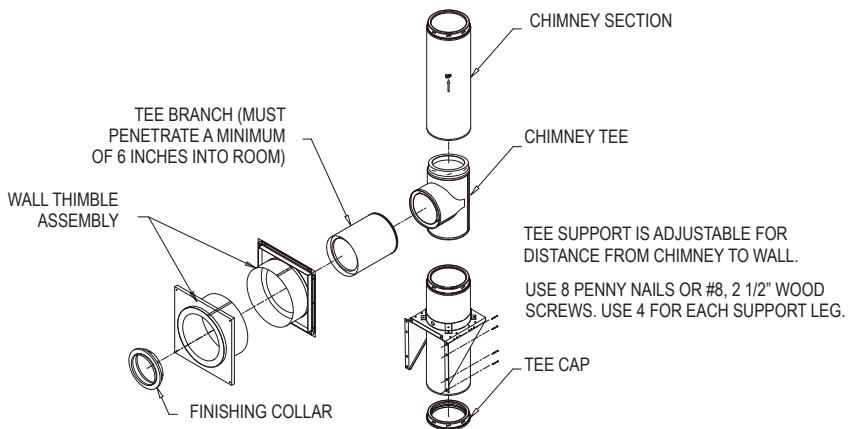
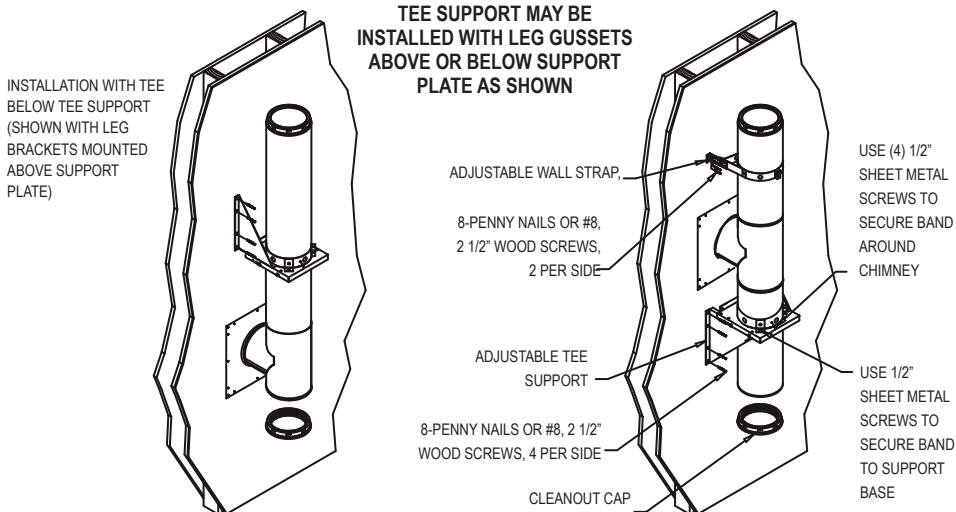

Figure 24
Figure 25
DuraTech Chimney (**Table 2**). The various support components are adjustable in length from the wall to better fit your installation. There are two options when installing a Tee-Supported installation: the Tee Support above the Tee, or the Tee Support below the Tee. The required parts and general configuration are as shown in **Fig.24, 25, 26 and 27**.
3. Install Wall Thimble: The Wall Thimble is a two-piece component which includes the Interior half and the Exterior half. On the outside wall, install the back portion of the Wall Thimble. Center the back portion of the Wall Thimble (with shield inside wall) in the framed opening of the outside wall (**Fig.24**). Be sure to seal the flange of the Wall Thimble around the wall by using a non-hardening waterproof sealant. Attach the back portion of the Wall Thimble to the outside wall using at least (4) 8-penny nails or (4) #8, 1-1/2" wood screws. There must be a continuous shield within the wall. If the two halves of the Wall Thimble do not overlap, a field-fabricated extension constructed out of 26-gauge galvanized or stainless steel is needed.
Thimble (**Fig.24, 25, 26 & 27**). The Tee Support may be installed either above the Tee or below the Tee (within one pipe section), as seen in **Fig.25**. See **Table 2** for weight bearing values of components. Important: Verify that Tee Support is level, and secure the Support to the wall using (4) #8, 2-1/2" screws for each side. Slide support base over leg brackets to adjust for desired clearance to wall, and secure by tightening bolts (**Fig.24 & 25**).
5. Install Tee and Cleanout Chimney Section: Twist lock the Tee onto a desired length of Chimney to be used as the cleanout section. Use only one chimney section (any length) to attach to bottom of the Tee. Tighten support band around chimney section at proper height to insure that Tee is centered through Wall Thimble (**Fig.25**). Use the 1/2" sheet metal screws provided to insure a tight connection between support band and chimney section. Connect support band to support base using the 1/2" sheet metal screws provided (**Fig.25**). Twist lock Tee Cap into bottom of Chimney Cleanout section.
6. Install Branch onto Tee: From inside the house, attach the Chimney Branch up to 24" chimney section, depending on wall thickness, positioned horizontally used to pass through the wall) to the Tee by twist locking it clockwise. Important: The Chimney section used to penetrate through the wall must extend at least 6" into the room (**Fig.24 & 27**). Use high-temperature sealant (500°F) to seal between the Wall Thimble and the Chimney on the outer wall.
7. Install Cover Plate and Finishing Collar: After the Chimney Branch is secured in place (penetrating at least 6" into the room), slide the Cover Plate over the Branch and attach it to the framing using (4) 1-1/4" long, round head wood screws. Be sure that the Branch is centered in the opening of the Cover Plate.